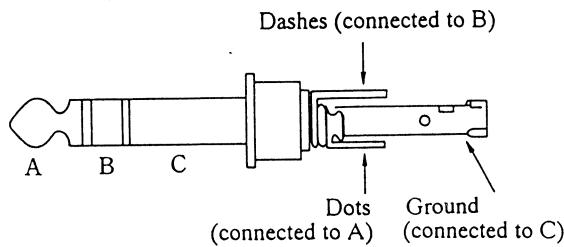

Figure 1-11 Connection of Electric Keyer
Connect a manipulator using a commercially-available 6.0mm-diameter plug, as shown in Figure 1-11. Then, turn on the ELECTRONIC KEYER switch (67).